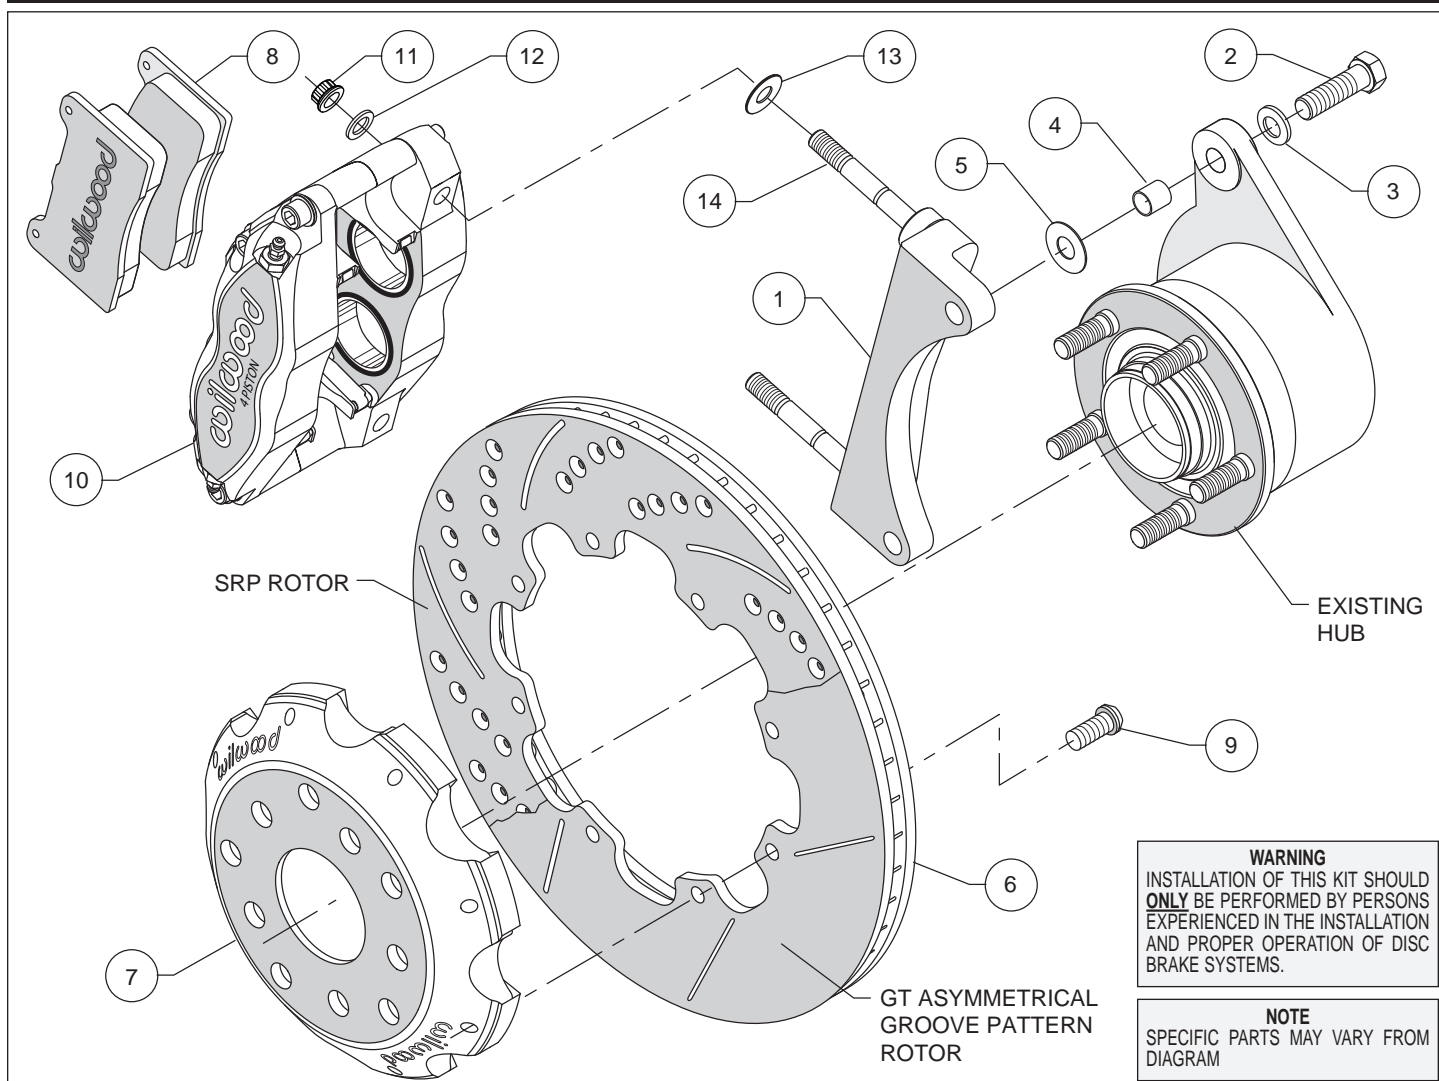

Figure 1. Typical Installation Configuration
- Insert one sleeve (4) each into the holes on the top and bottom spindle "ears" where the OEM caliper bracket was removed. The caliper mounting bracket assembly (1) should be installed first with clean, dry threads on the mounting bolts. Install the bracket from the front side of the spindle by sliding bolts (2) through washer (3) and sleeve (4). Place .030 thick shim (5) between the bracket and the front side of the spindle, Figure 1. The bracket must tighten squarely against the side of the spindle body. Inspect for interference from casting irregularities, machining ridges, burrs, etc. Use one shim (5) between the spacer and spindle during initial trial fitting.
- With the larger I.D. side of the rotor (6) facing away from the hat (7), attach rotor (6) to hat (7) using bolts (9) as shown in Figure 1. Using an alternating sequence, remove bolts one at a time, apply red *Loctite*® 271 to the threads, and torque to 25 ft-lb.
- Install one shim (13) over each pre-installed stud (14) on the radial mount bracket (1). Slide the caliper (10) in place over the studs and rotors and install the washer (12) and lock nut (11) to hold the caliper in place. Snug the lock nuts (11). View the rotor (6) through the top opening of the caliper (10). The rotor (6) should be aligned in the center of the caliper (10). If not, adjust the caliper (10) by using .030" shims (5) placed between the bracket and the spindle to center the caliper. Always use the same amount of shims on both the top and bottom caliper mounting bolts (2).
- Remove the caliper quick-clip pad retainer from the caliper (10). Slide the brake pads (14) into place. They should install easily without interference. Check that the outside radius of the brake pad is aligned with the outside diameter radius of the rotor face. Add or subtract shims (13) between the caliper and mount bracket to gain the proper alignment. Reinstall the quick-clip pad retainer.
- Once all clearances have been checked, remove the wheel, caliper, hat, and rotor from the spindle and hub. Secure the caliper mounting bracket (1) to the spindle using red *Loctite*® 271. Torque the bolts to 47 ft-lbs. Reinstall the hat and rotor assembly and again use three lug nuts to hold it in place. Lubricate caliper mounting studs and nuts with lightweight oil, reinstall the caliper, torque the caliper nuts (11) to 30 ft-lb.